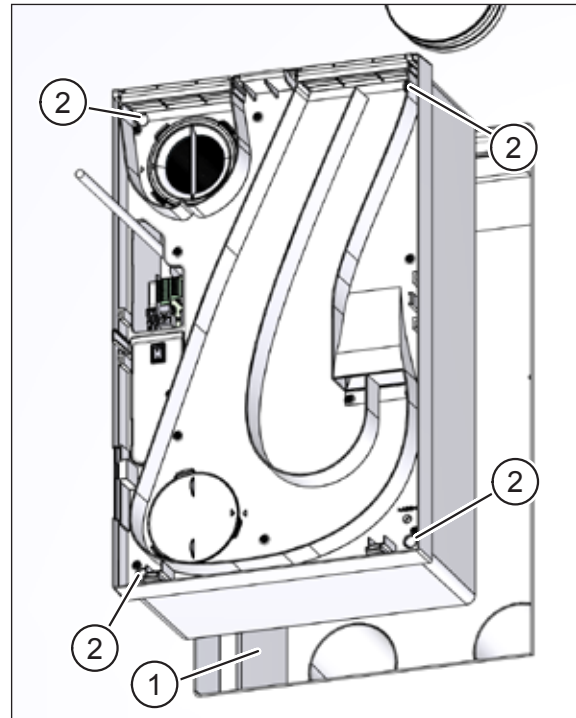

Fig. 44: Fixing the ventilation unit – U² integrated into wall installation
- ▶ Carefully push the ventilation unit as far as it will go into the wall box (item 1 in Fig. 44).
- ▶ Use the four cross-head screws (item 2 in Fig. 44) to fix the ventilation unit. **Lightly** tighten the screws using a diagonal sequence.